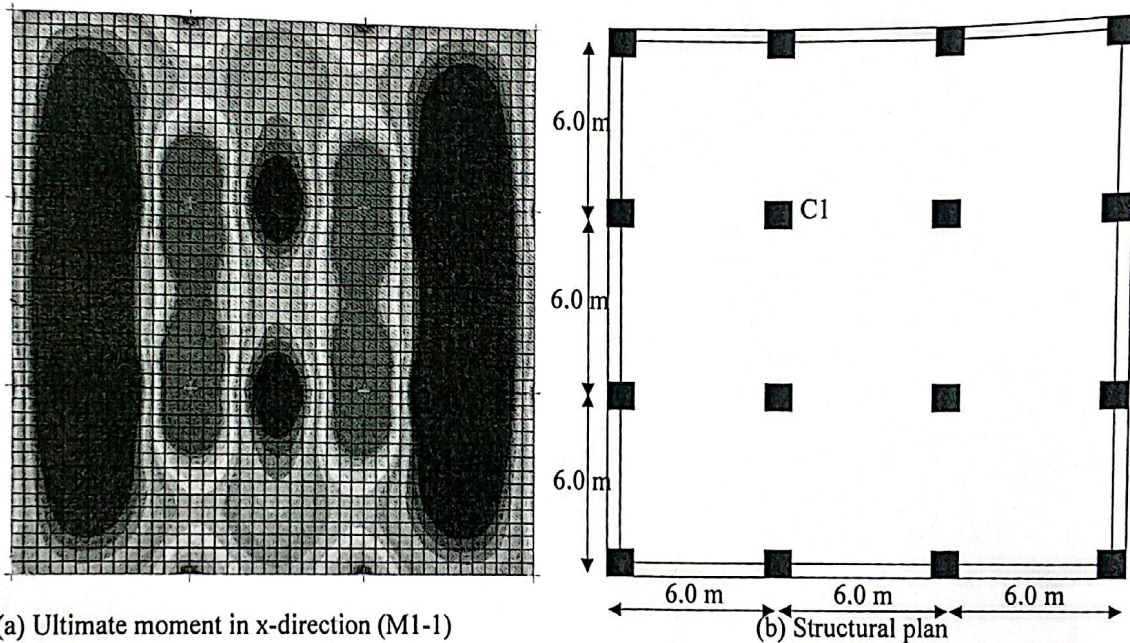

Fig. 1
An industrial building to be established in Tanta City to cover an area 18m×30m using the main system shown in Fig. 1 with equal spacing 6.0 m between main systems. The used covering material is single layer of steel corrugated sheets (8 kg/m²). It is required to:
- (b) Fig. 1 shows the structural plan and SAP program outputs of M_{1-1} . The slab thickness is 200 mm and reinforced by $6 \phi 10$ /m top and bottom. As per the structural analysis results obtained by SAP program, the negative bending moment at column C1 is 55 kN.m/m. Consider, the yield strength of the steel reinforcement is 500 MPa, the concrete compressive strength is 30 MPa, and all columns are 400 x 400 mm, it is required to carry out the following;